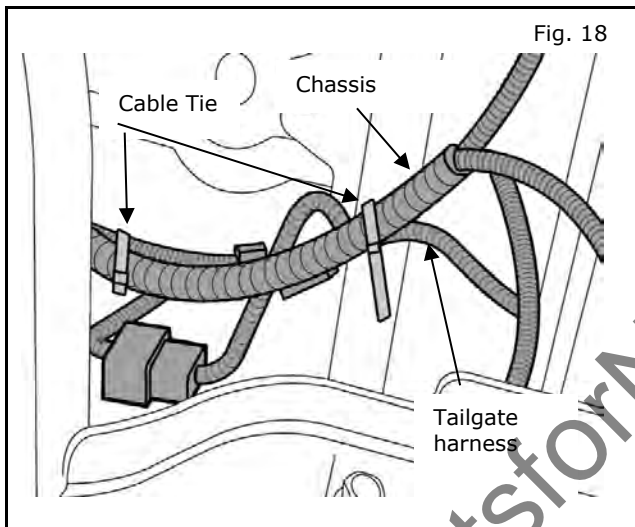

Fig. 18
- Do not secure either tailgate harness or kit provided tailgate main harness (999M2 W3002) for the first (200 mm = 8 inches) to the vehicle. Wire harness ends must be able to exist in vehicle if customer removes tailgate in normal operation. Length is required to allow customer to access connector from above. (Figure 18)
- 18) Cable tie harness to vehicle chassis harness using two 8" cable ties. (Figure 18)